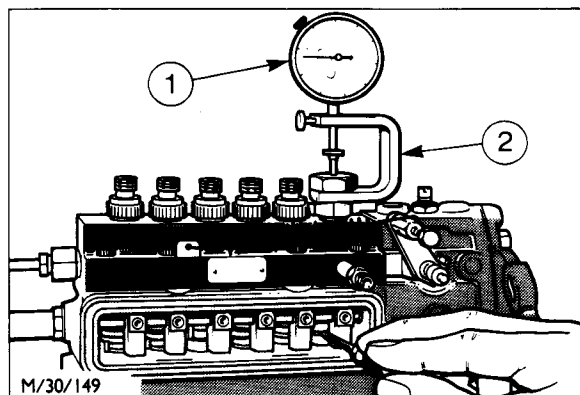

Fig. 11 - Measuring the Stroke to Close the Inlet Port
2. Screw the plunger head clearance gauge (TOOL NO. CT 9076 B) into number 1 line in the pump body and tighten securely (Fig. 11). Push the spindle of the tool down to ensure that it rests on the top of the plunger. Attach the dial indicator gauge (TOOL NO. CT 9017) to the plunger head clearance gauge (TOOL NO. CT 9076B) and clamp it in position with its spindle resting on the spindle of the other tool.